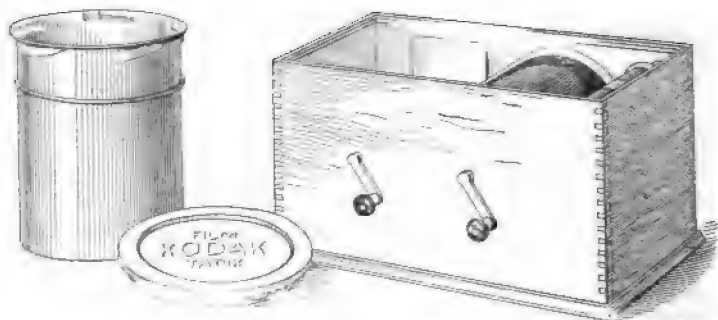

FIG. 43. — Kodak film tank.
*Kodak film tank.* Films may now be developed without a dark room by using the kodak film tank. (See figure 43.) This consists of a wooden box, a light-proof apron, a transferring reel, and a metal cup. At one end of the box the film is fastened, and at the other end is placed the light-proof apron wound around an axle. Between the two is the transferring reel. The ends of both the film and the apron are fastened to this reel. The cover is put on, and then by means of a